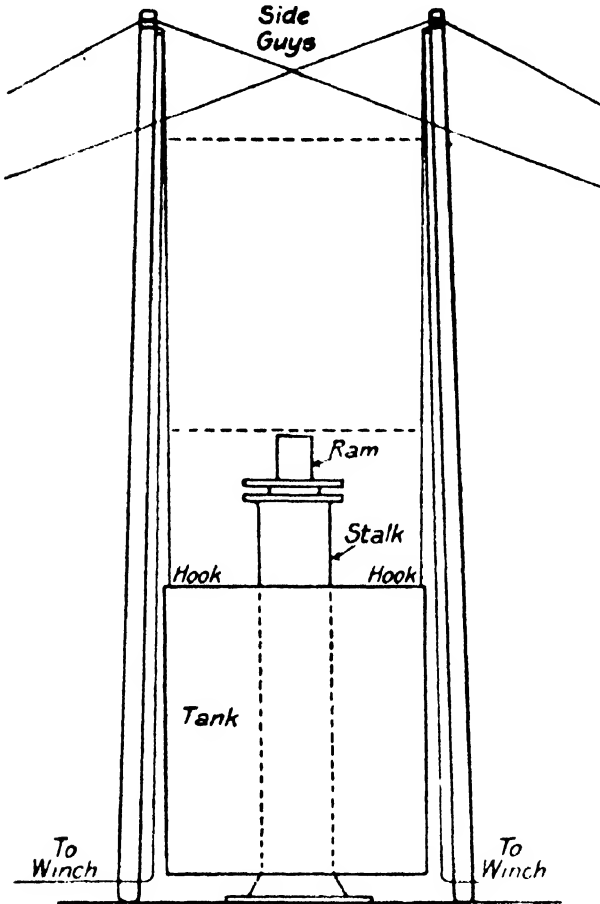

FIG. 81.—Front View.
**Erecting.**—One derrick pole only for lifting bulky articles is a gross failure, as may be readily understood, and when such lifts need hoisting to a comparatively great height, the sheer legs are also impossible, so recourse has to be made to two sets of lifting tackle. In the diagrams (Figs. 81 and 82) the method of tackling a bulky tank for an accumulator is illustrated, Fig. 81 showing the front view, where the two